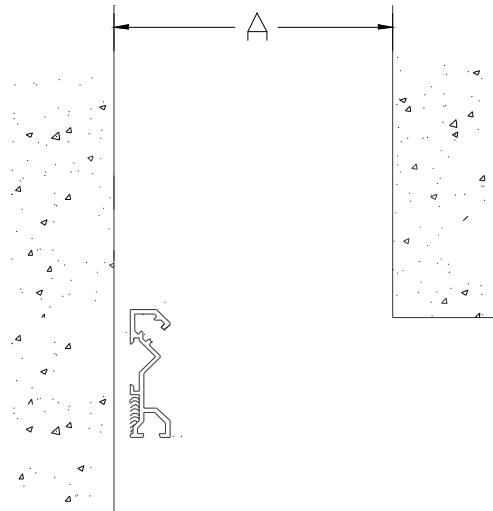

Figure 4
STEP 6. Select the base member apply a continuous bead of silicone sealant to the back side of the base member, see Figure 4.